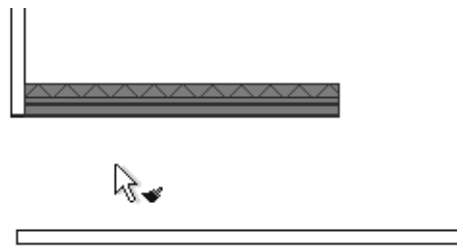

Figure 2–21
2. Select the source element that you want all of the others to match. The paintbrush changes to look as if it has been dipped in black paint as shown in Figure 2–21.